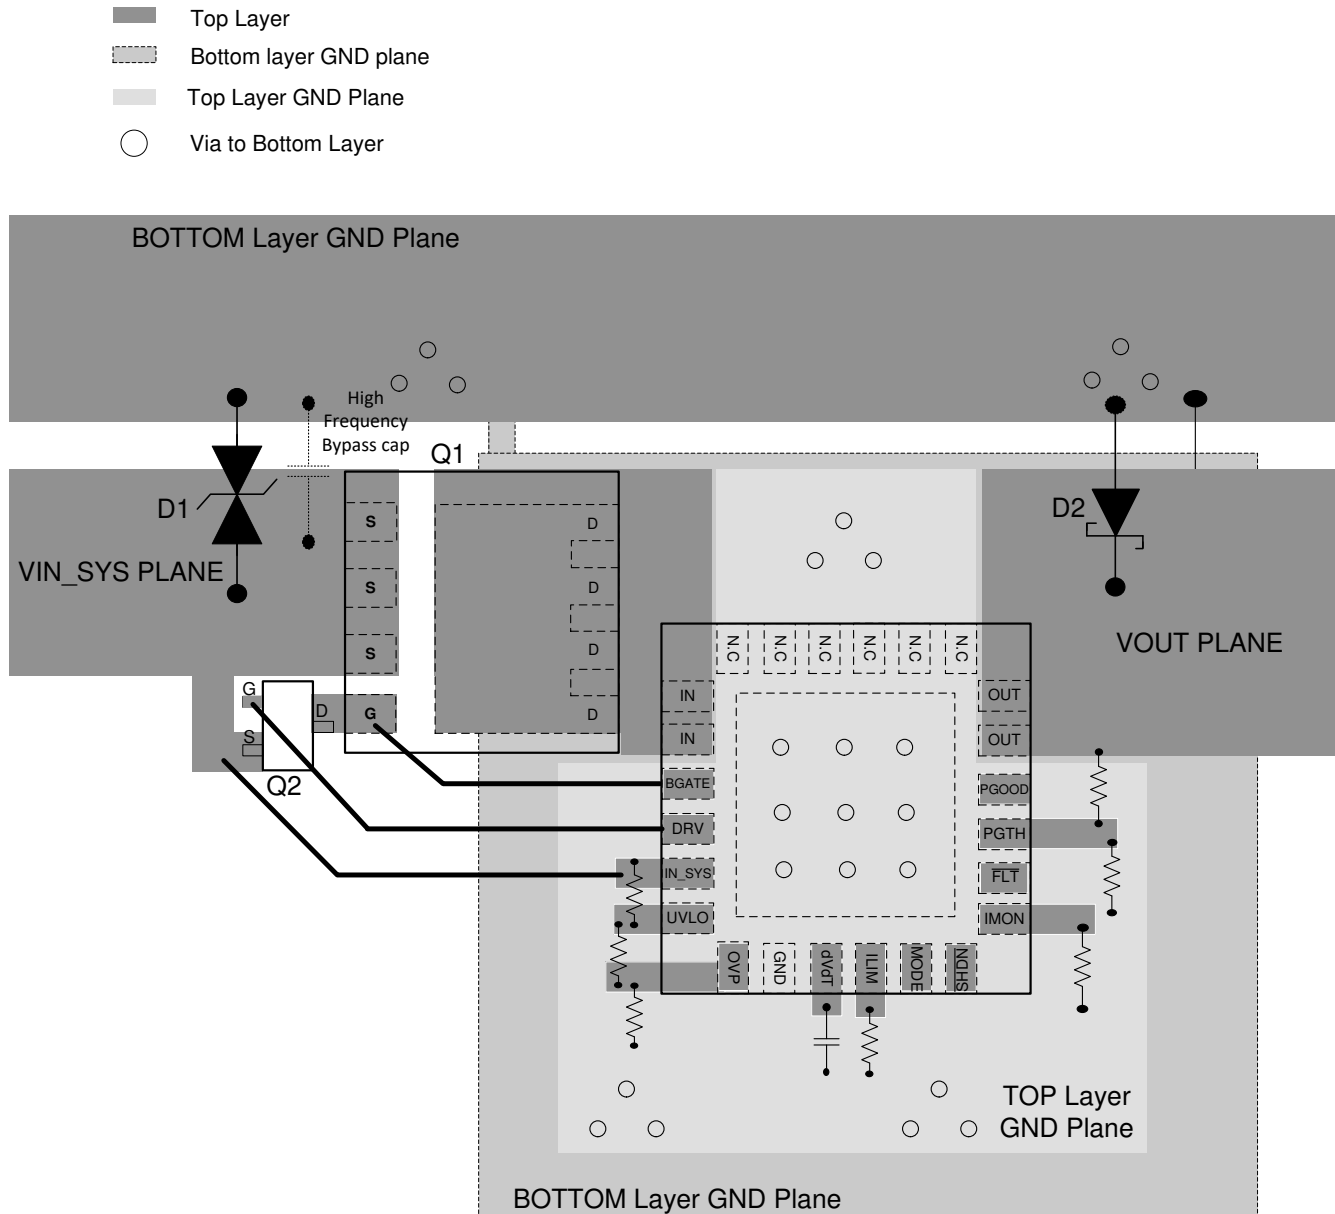
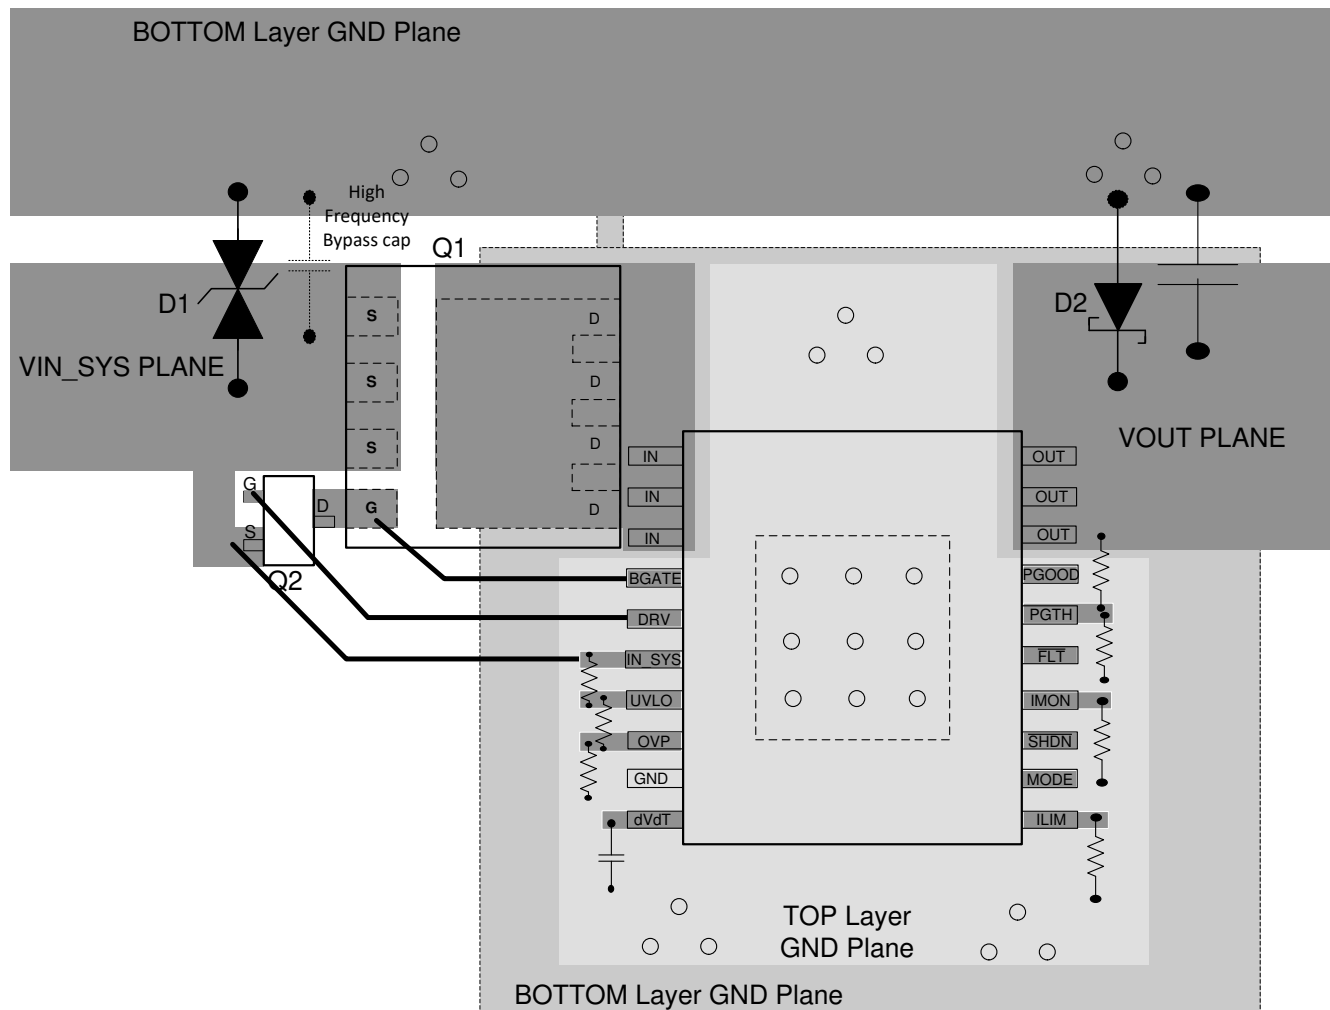

图 9-18. Typical PCB Layout Example with QFN Package with a 2-Layer PCB
图 9-19. Typical PCB Layout Example with HTSSOP Package with a 2-Layer PCB
- The external FET Q1 must be placed with DRAIN close to the  $V_{IN}$  pins of the IC and connected through a plane. The fast pulldown switch Q2 DRAIN and SOURCE must be placed very close to the GATE and SOURCE terminals of Q1 with very short loop. See 图 9-18 and 图 9-19 for a typical PCB layout example.